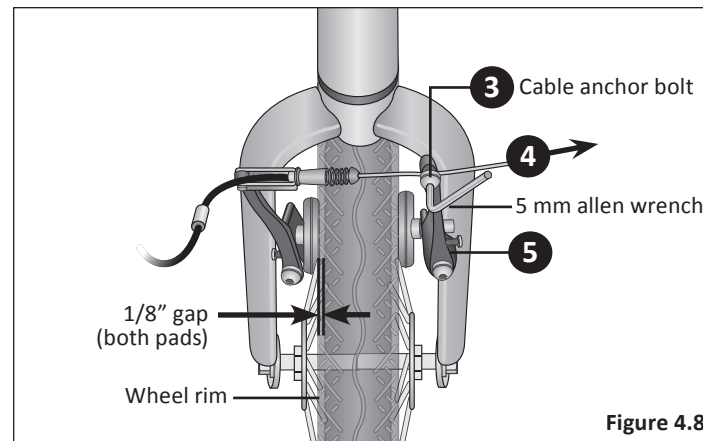

Figure 4.8
- 3 Check the brake cable is seated in the brake lever. Using a 5 mm allen wrench loosen the cable anchor bolt enough so the brake cable can move freely. **Figure 4.8**